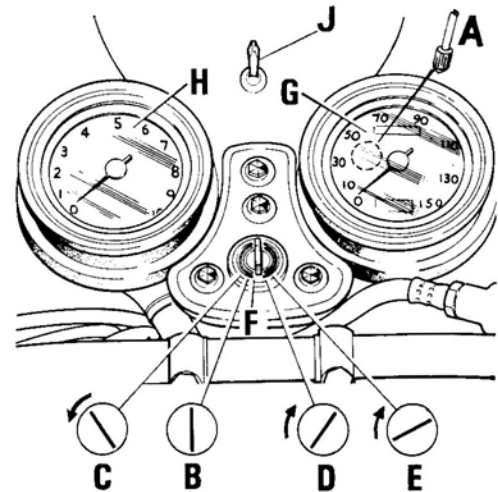

Fig. 5
In the 'OFF' position (B), fig. 5, there are neither lites nor ignition. Turn the key counter clockwise to obtain the parking lite and rear lite (C).
Parking lite switch (J). When the switch F (fig. 5) is in position E (i.e. ignition and headlite), the headlite beam may be changed to parking lite by operation of this switch.